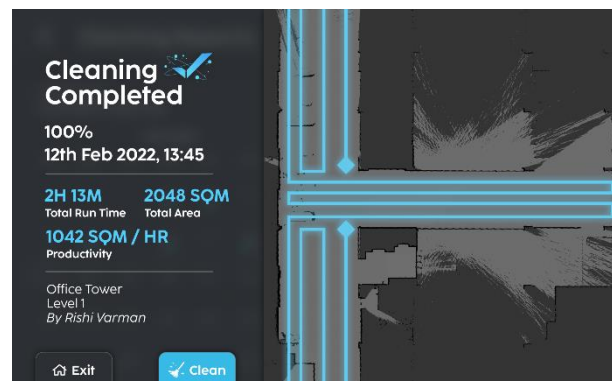

Fig. 11
10. A cleaning report is generated after a zone is cleaned (Fig 11).